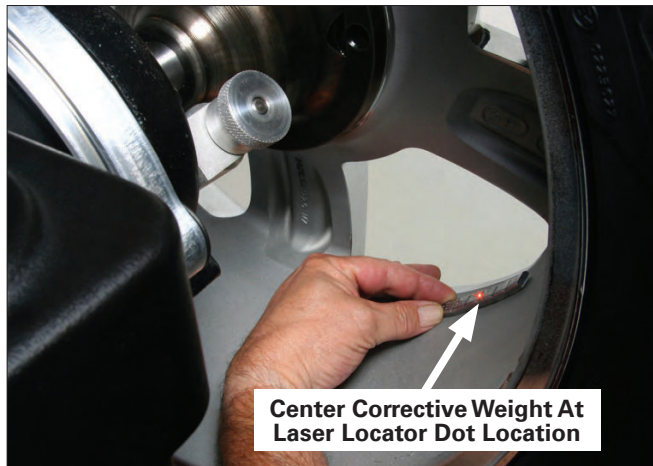

Figure 13 - Centering Corrective Hidden Weight At Laser Locator Dot Location
8. Center and attach the outboard corrective weight at laser locator dot location as shown in figure 13.